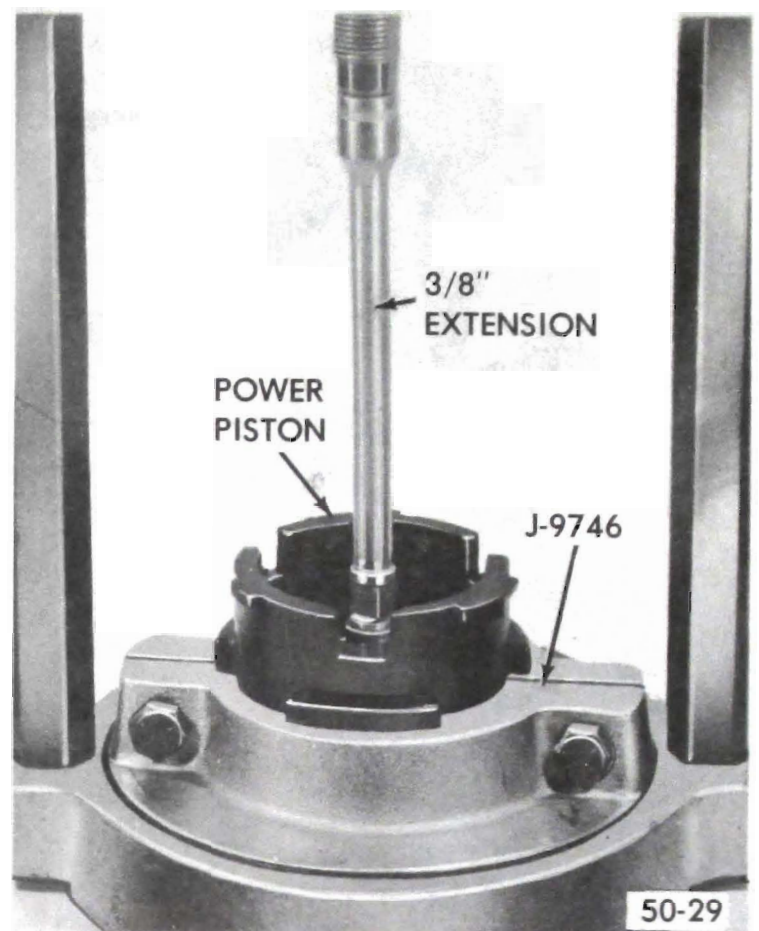

Figure 50-110 Removing Air Value Assembly
11. Set up Power Ram and Hydraulic Pump with J-9746 Press Plate. Insert power piston, tube down, in press plate and remove air valve assembly using a 3/8" drive extension as a remover. See Figure 50-110.